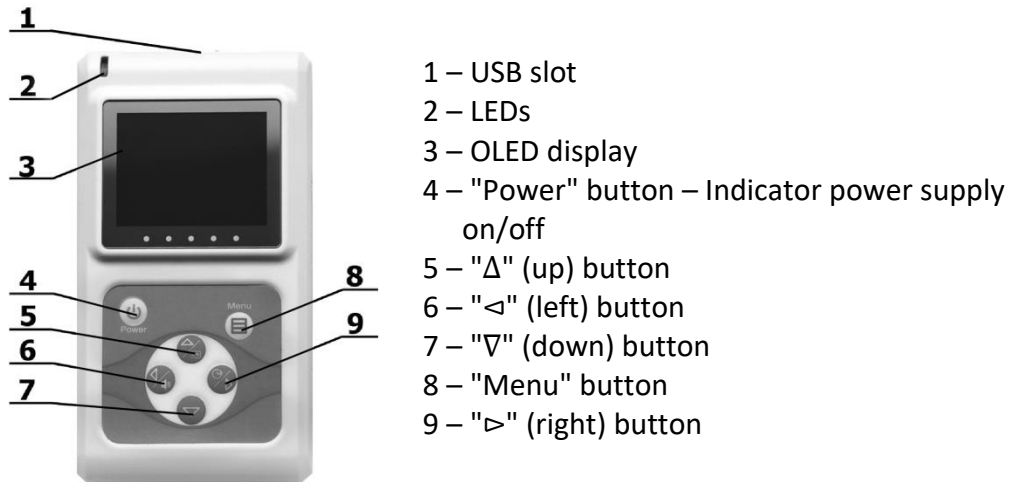

Fig. 1 Appearance of the front side of RadiaScan-501(701)
Appearance of the front side of RadiaScan-501(701) is shown in Fig. 1.